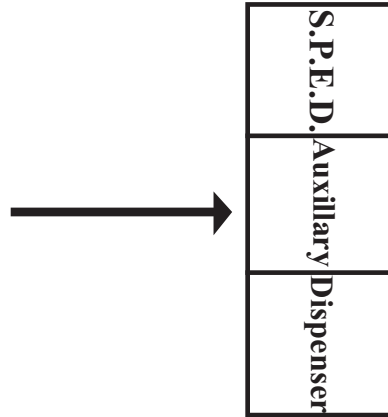

Figure 12. Data cable connection.
- Route the data cable (RJ-45 connector end) along the existing cable run and connect to the “AUXILLARY” port on the docking board (Figure 12).